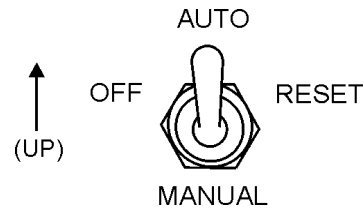

Figure 51. Off/Manual Auto Switch (AUTO)
2. Place the Off/Manual/Auto switch (Figure 51) in the **AUTO** position (up).